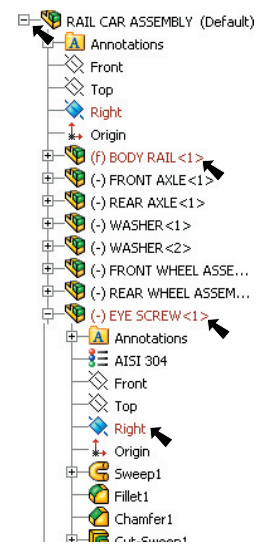

Fig. 48
Step 7. Expand the Design Tree (click +) in the top left corner of the drawing area, Fig. 48.
Step 8. Click **Right** (plane), Fig. 48.
Step 9. Expand **EYE SCREW 1** and click **Right** (plane), Fig. 48.
Step 11. Click Zoom to Fit  (F) on the View toolbar.